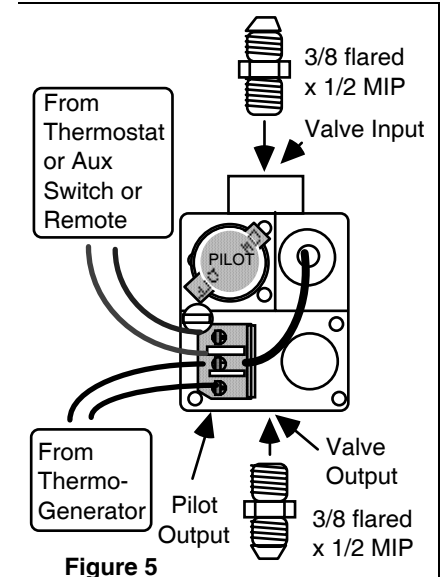

Figure 5
STEP THREE: Valve Fittings (Figure 5).
1. Attach the **JPG-9 Thermogenerator Leads** to the "**PG**" and "**PG TH**" terminals of the **Valve Terminal Block**. See Figures 5, 6 and 7.